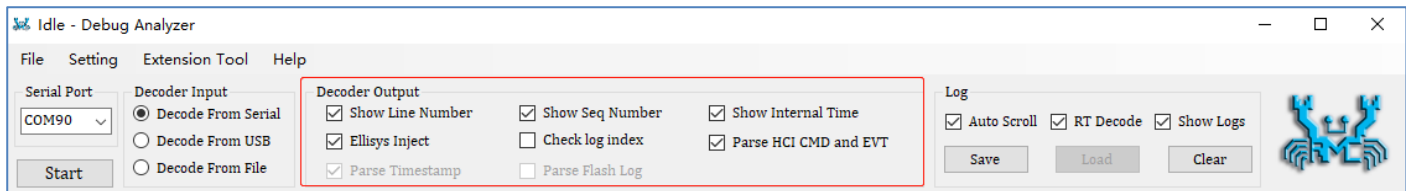

Figure 4-3 Decoder Output Settings
1. The “Decoder Output” area of the main page contains the commonly used parsing output parameter configurations (Figure 4-3).